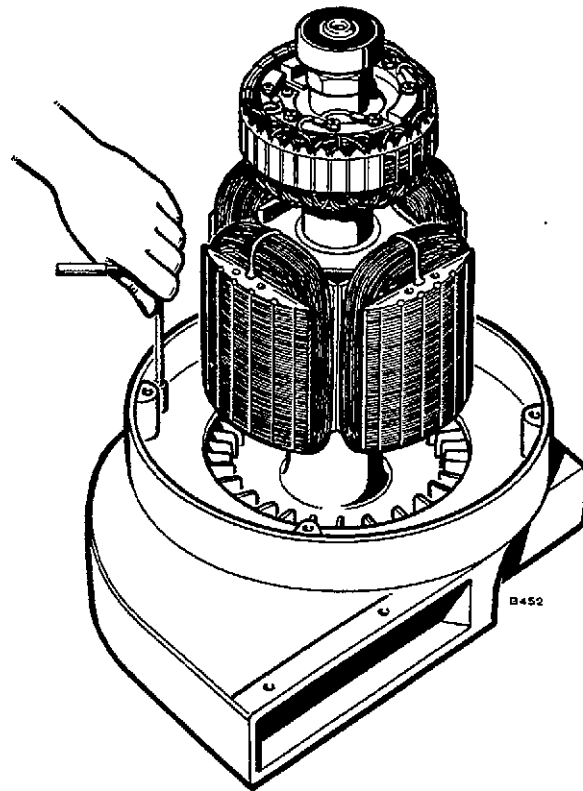

FIGURE 61. AIR BAFFLE REMOVAL
8. Remove air baffle by loosening four locking screws, Figure 61.